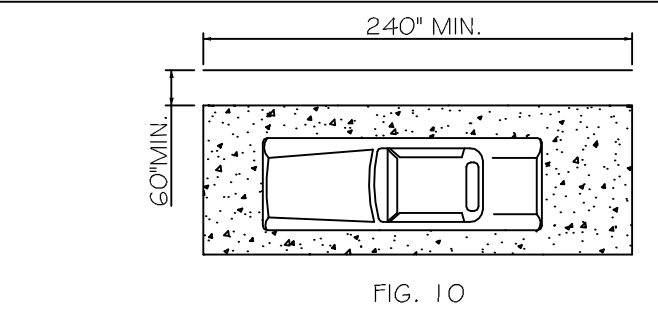

FIG. 10 ACCESSIBLE AISLE AT PASSENGER LOADING ZONES N.T.S.
4.6.5 PASSENGER LOADING ZONES. PASSENGER LOADING ZONES SHALL PROVIDE AN ACCESSIBLE ASILE AT LEAST 60' (18.29m) WIDE AND 20' (6.09m) LONG ADJACENT AND PARALLEL TO THE VEHICLE PULL-UP SPACE (SEE FIG. 10). IF THERE ARE CURBS BETWEEN THE ACCESSIBLE ASILE AND THE VEHICLE PULL-UP SPACE, THEN A CURB RAMP COMPLYING WITH 4.7 SHALL BE PROVIDED. VEHICLE STANDING SPACES AND ACCESSIBLE SPACES SHALL BE LEVEL WITH SURFACE. SLOPES NOT EXCEEDING 1:50 IN ALL DIRECTIONS.
4.6.6 VERTICAL CLEARANCE. PASSENGER LOADING ZONES SHALL PROVIDE AN ACCESSIBLE ASILE AT LEAST 60' (18.29m) WIDE AND 20' (6.09m) LONG ADJACENT AND PARALLEL TO THE VEHICLE PULL-UP SPACE (SEE FIG. 10). IF THERE ARE CURBS BETWEEN THE ACCESSIBLE ASILE AND THE VEHICLE PULL-UP SPACE, THEN A CURB RAMP COMPLYING WITH 4.7 SHALL BE PROVIDED. VEHICLE STANDING SPACES AND ACCESSIBLE SPACES SHALL BE LEVEL WITH SURFACE. SLOPES NOT EXCEEDING 1:50 IN ALL DIRECTIONS.